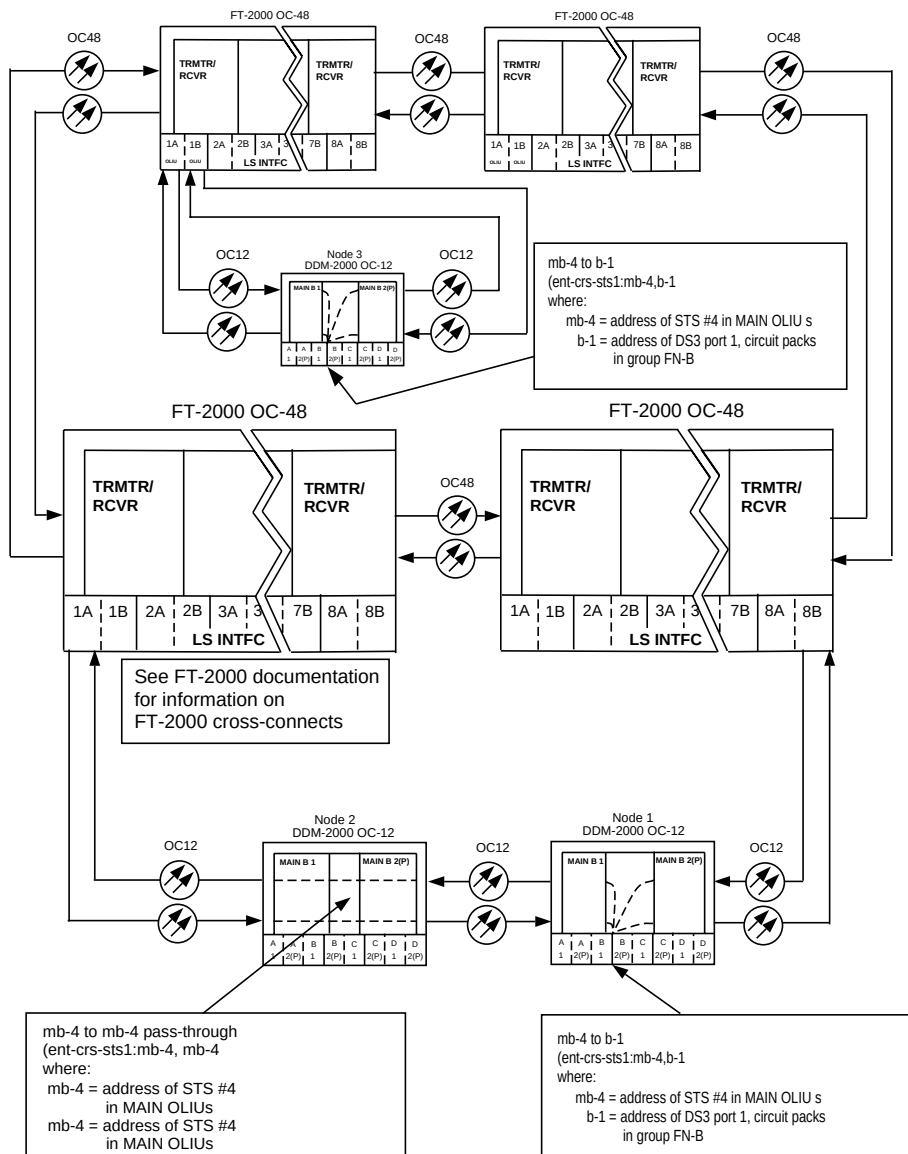

Figure 5. Example of Single/Dual Homing OC-12/OC-48 Cross-connections
Cross-connections consist of drop and pass-through connections. For example in Figure 5, drop connections are made at OC-12 Nodes 1 and 3. Pass-through cross-connections are made at Node 2 in the network. Also, cross-connections must be made in all interconnected rings, including other DDM-2000 OC-3 rings, DDM-2000 OC-12 rings, and the FT-2000 OC-48 rings, as required. See **ent-crs-()** command in the Commands and Reports section of Volume 1 of this manual.
11. At both terminating (drop) nodes of the circuit being established, use the **ent-crs-sts1:** command to make the terminating cross-connections at OC-12 nodes (for example at the OC-12 Node 3 in Figure 5 **ent-crs-sts1:mb-4,b-1:cct=twoway**)